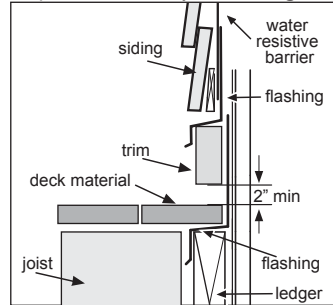

Figure 5
- Maintain a minimum 2" clearance between James Hardie trim products and roofs, decks, paths, steps and driveways (figs. 5 & 6).